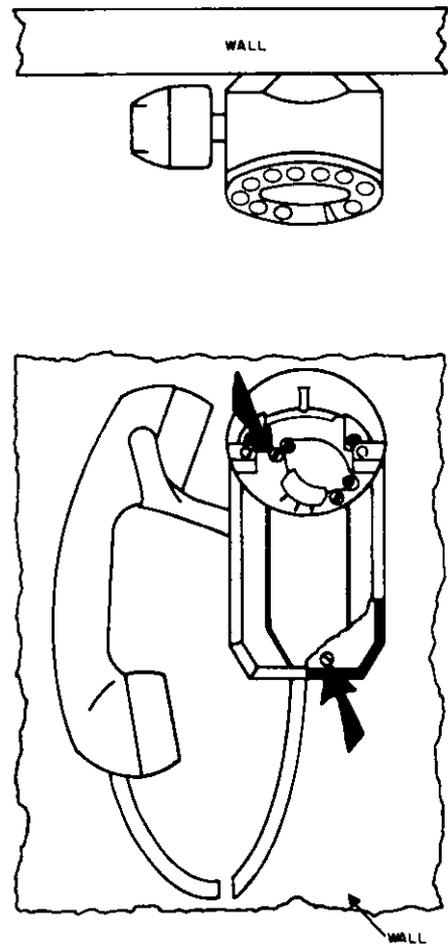

Figure 5. Wall Mounting.
4.03 For mounting the telephone on a wall or other flat surface, the housing has three knockout holes. To reach two of these holes, the dial or dial blank must be removed. The third hole is located in the lower part of the housing. A typical wall mounting is shown in Figure 5.